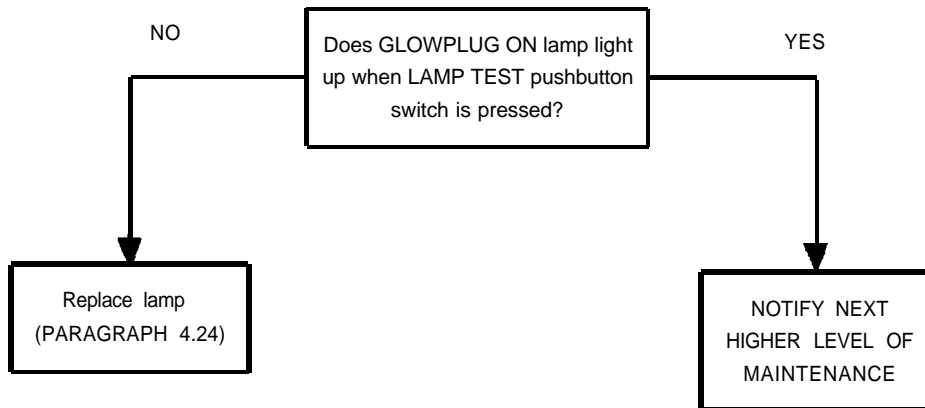

Figure 3-3 GLOWPLUG ON lamp does not light up.
- f. Troubleshoot using figure 3-3 if GLOWPLUG ON lamp does not light up.
GLOWPLUG ON lamp does not light up	Figure 3-3